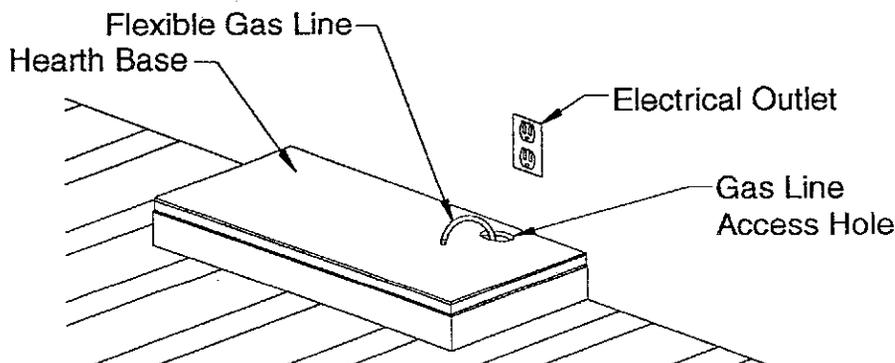

Figure 11 - Placing (optional) Hearth Base against wall
2. If using an optional VF32B blower, install a properly grounded, 120 volt three-prong electrical outlet at firebox location if an outlet is not there. If possible, locate outlet so cabinet mantel will cover it when installed (see Figure 11, below).
4. Place (optional) hearth base accessory against wall at installation location. Cut an access hole in hearth top to run flexible gas line to fireplace (see *Figure 11*). Make sure to locate access hole so cabinet mantel will cover it when installed. Note: you can secure base to floor using wood screws. Countersink screw heads and putty over.